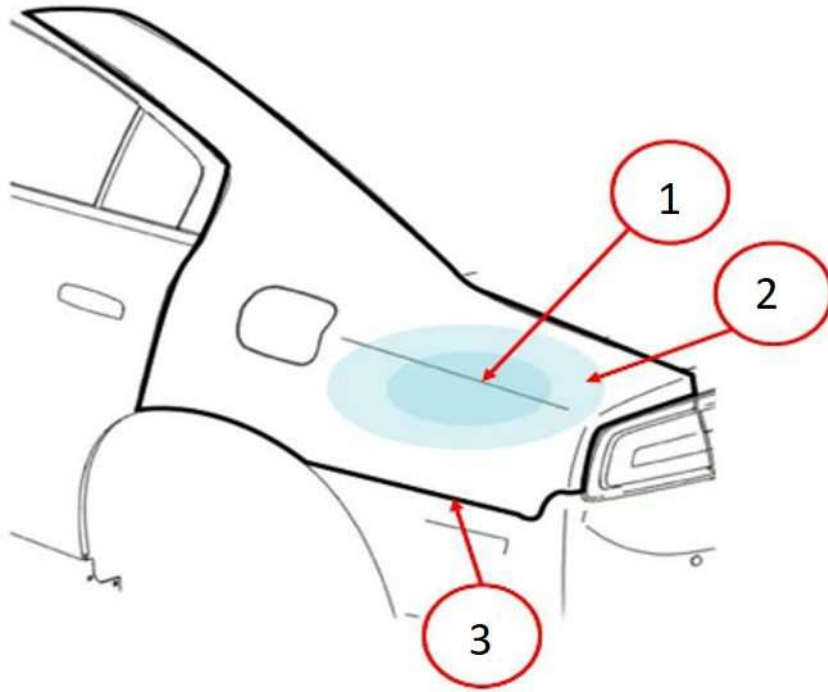

Fig. 1
- An example of partial clearcoat blending is shown in (Fig. 1) .
As shown in (Fig. 1) clearcoat is not applied to the entire quarter panel surface area, but only to a small portion. The repair area will initially appear sufficient but depending on how the process was performed the repair area will begin to degrade in 6 months to 3 years.